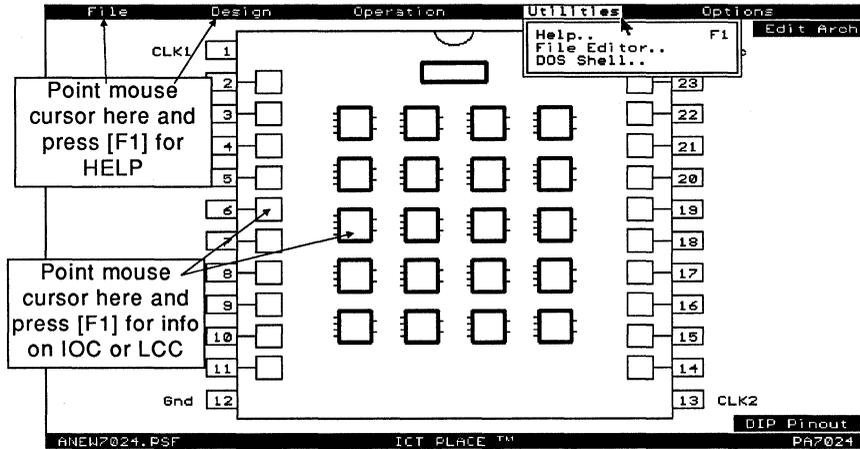

Figure 4-4, Utilities Menu Option
- Help Provides general information on the Help instruction. For individual Help per command, move the mouse to the command in the menu window and press the [F1] key. See Figure 4-4 for additional Help locations.